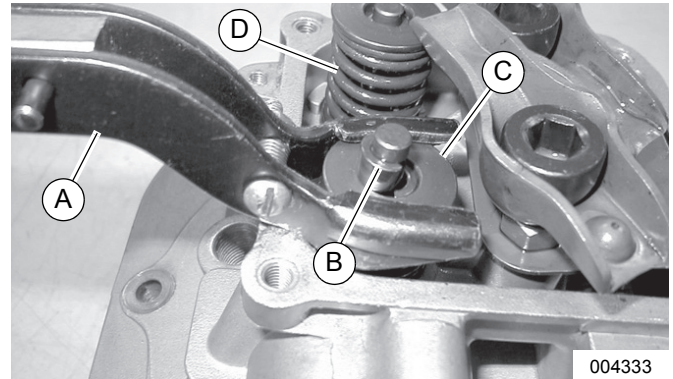

Figure 7-15. Compress Valve Spring; Install Keepers
5. See Figure 7-15. Compress valve spring and install keepers.